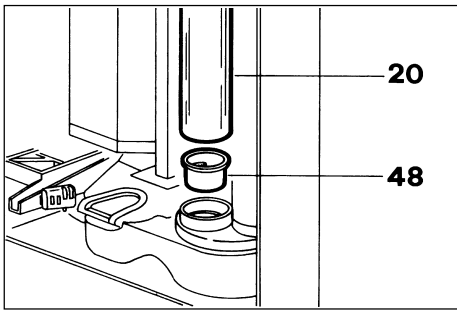

Fig. 27
**Attention: Cup tubes** have dimensions suitable for cups with a max. diameter of 70 mm; cups having a diameter of 58 mm (fig. 27) can also be used by inserting the necessary reduction rings (48).